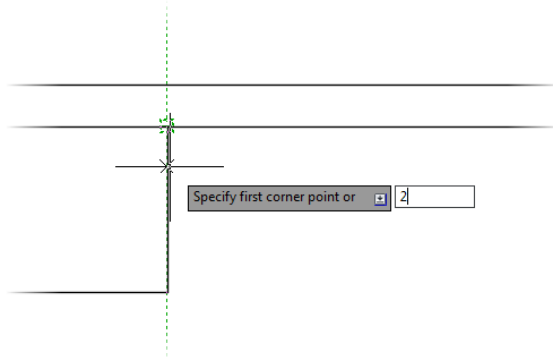

FIGURE 5.42: Locating the first corner of the rectangle
5. Move your cursor down, and enter **2** (51), as shown in Figure 5.42.